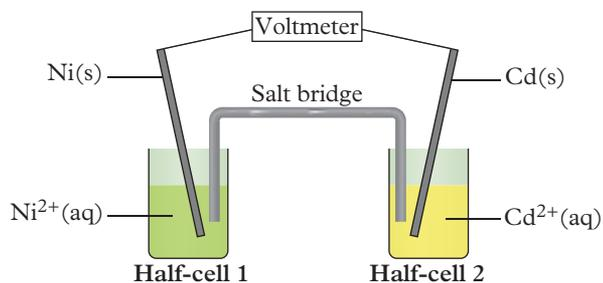

FIGURE 3 A NiCd galvanic cell
- ★★★ 16 A nickel–cadmium galvanic cell is constructed (Figure 3), where: